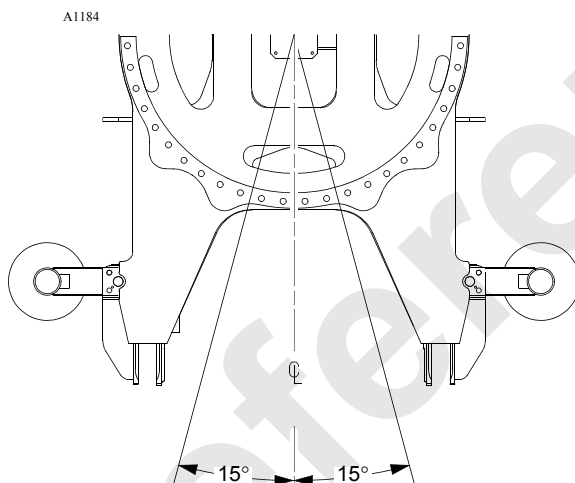

FIGURE 4-23
- Do not swing 15° either side of center (see Figure 4-23).